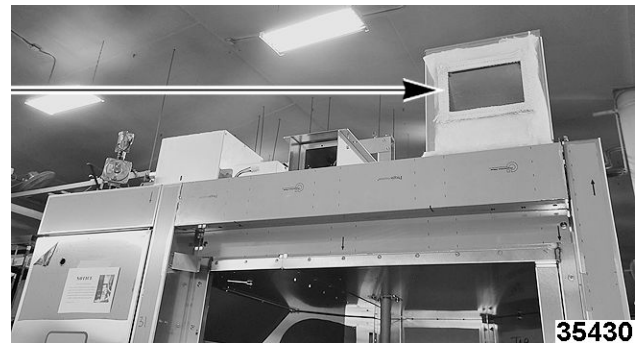

Fig. 98
- D. Apply high temp red silicone around face of overpressure duct (Fig. 98).